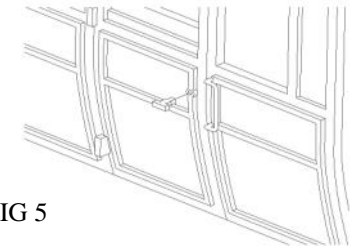

FIG 5
6. You can solder the door handles and grab rails in place now or leave them until after painting - when they will have to be glued. The door handle locating holes may need to be opened out. File the outer edge of the handles to a smooth finish. (Figure 5, above).